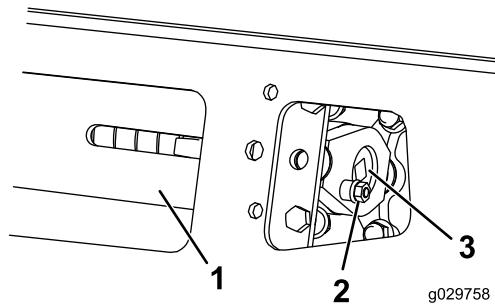
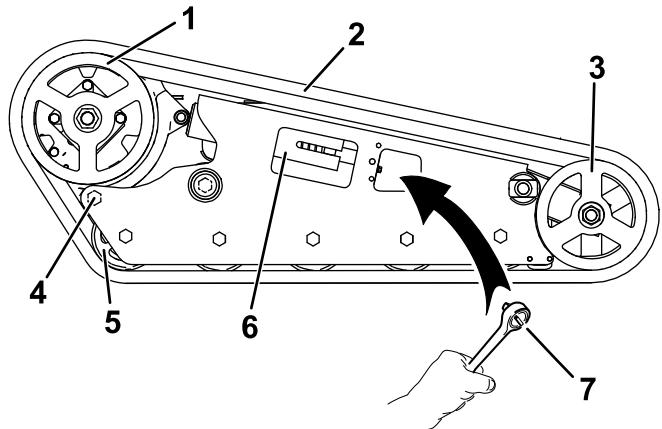

Figure 53
Figure 54
3. Remove the locking bolt and nut (Figure 53).
5. Align the closest notch in the tension screw to the locking-bolt hole and secure the screw with the locking bolt and nut (Figure 53).
3. Using a 1/2- inch drive socket, release the drive tension by turning the tensioning screw clockwise (Figure 53 and Figure 54).
4. Loosen the rear bolt, near the drive wheel (Figure 54).
6. When the track is off the front wheel, remove it from the drive sprocket and road wheels (Figure 54).
7. Beginning at the drive sprocket, coil the new track around the sprocket, ensuring that the lugs on the track fit between the spacers on the sprocket (Figure 54).
8. Push the track under and between the road wheels (Figure 54).